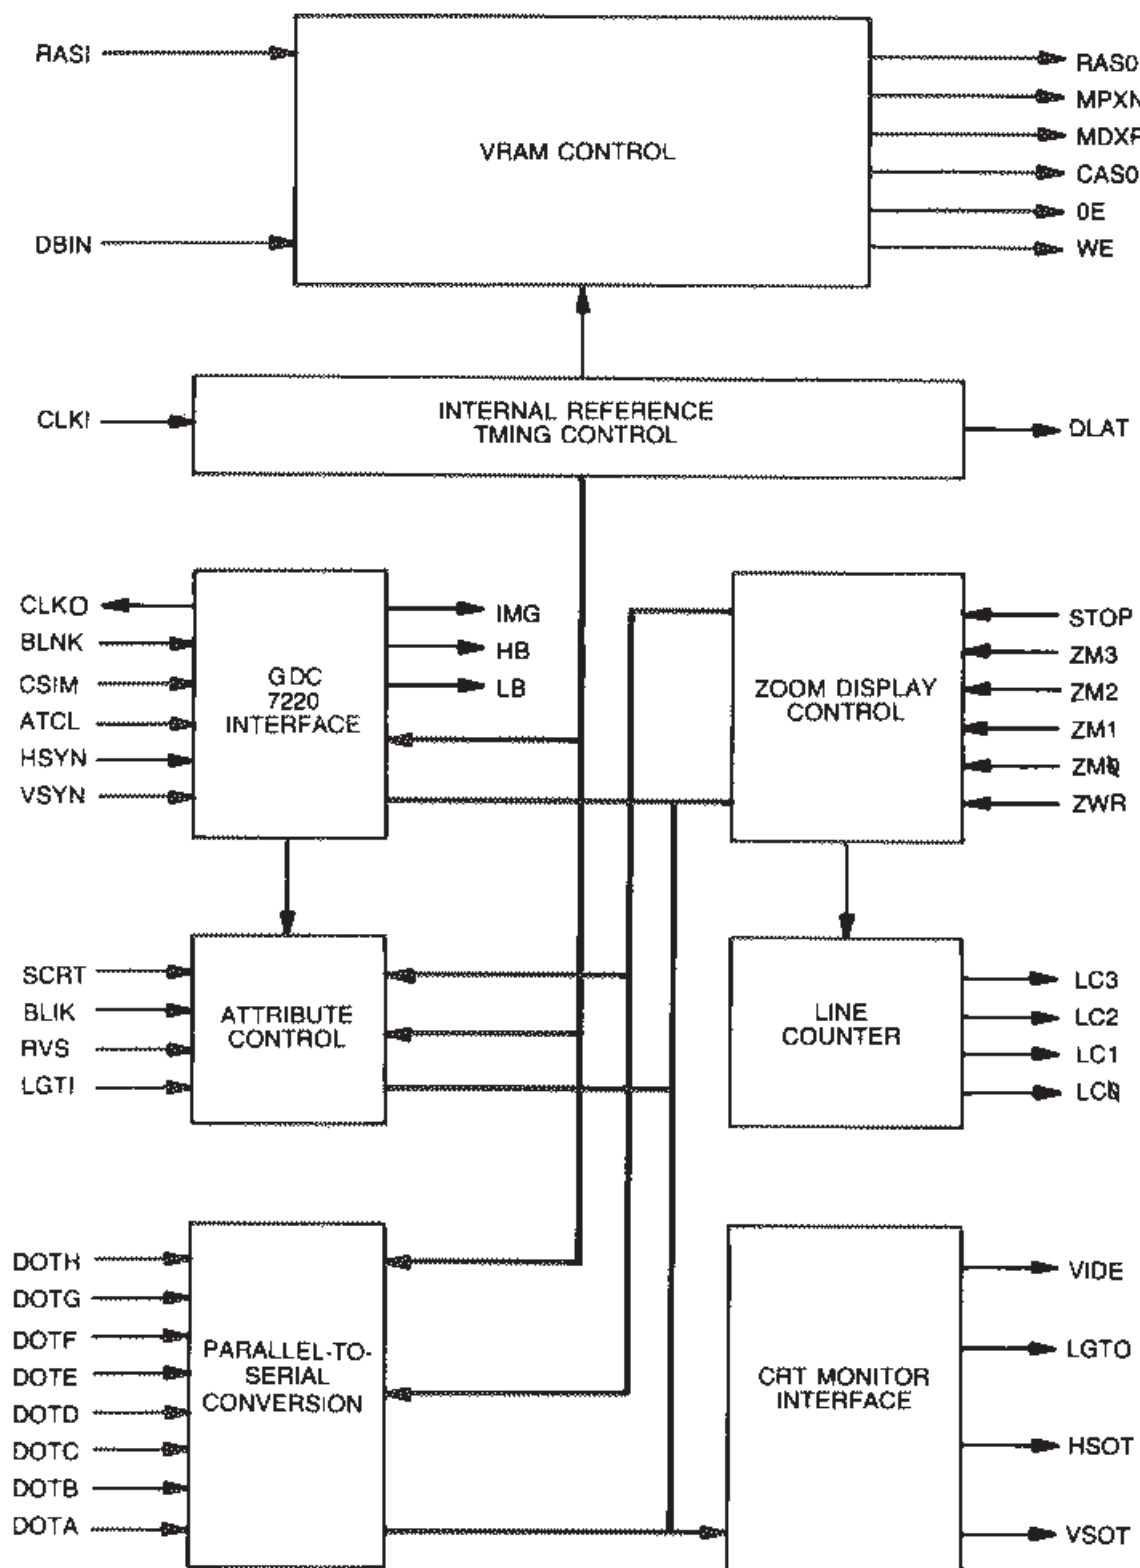

FIGURE 2-79. GAAPGD LSI BLOCK DIAGRAM
2.4.4 GAAPGD LSI Gate Array (Figure 2-79)